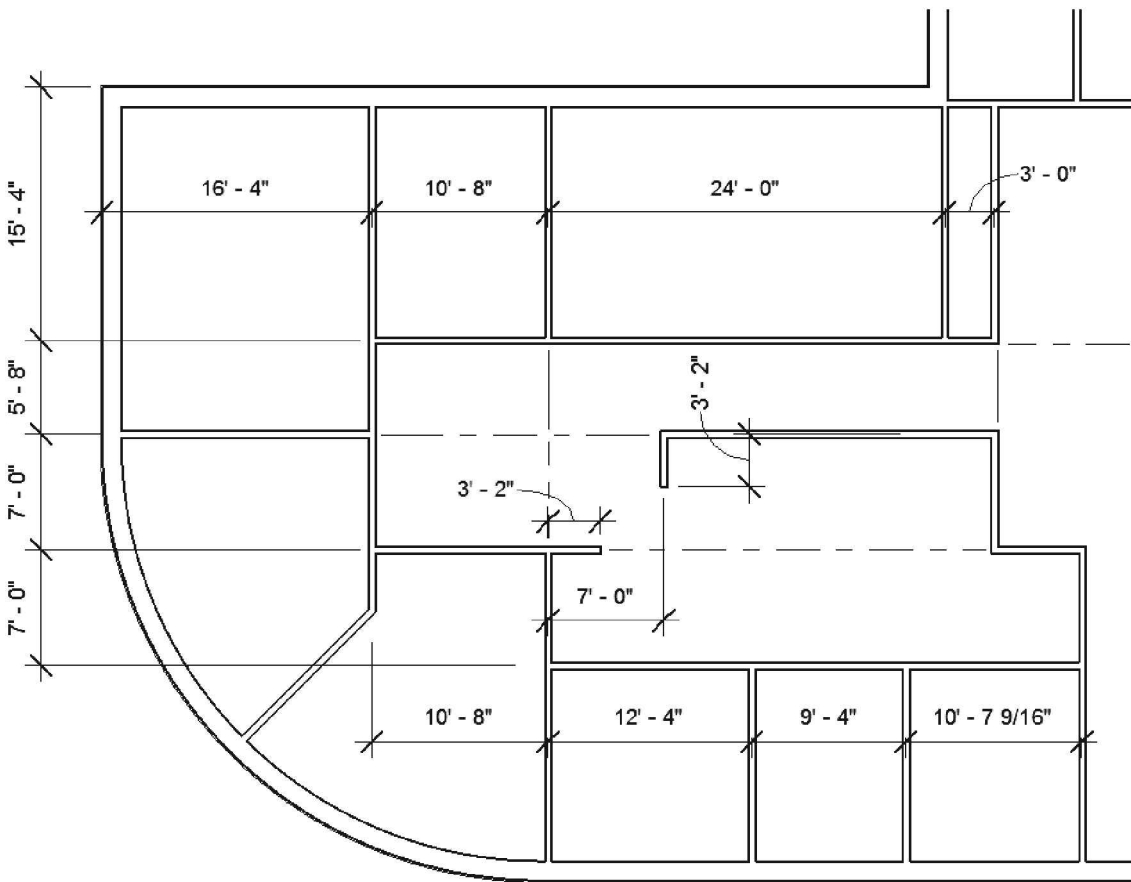

FIGURE 5-3.3A Layout dimensions for first floor interior walls – West
7. Draw the interior walls shown in Figure 5-3.3a and b; see the *TIPS* on the next two pages which should help you sketch the walls more accurately.